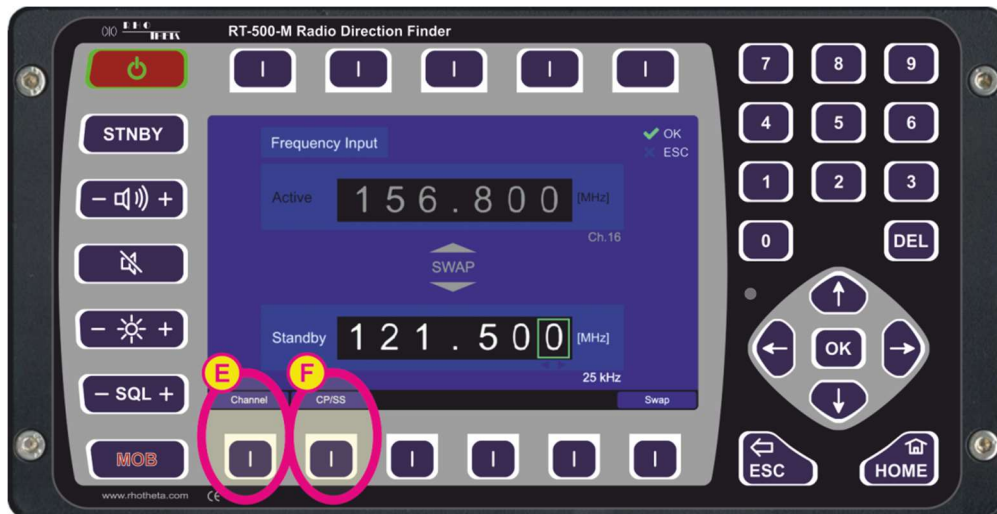

Figure 6. New frequency Input
- To input a maritime channel number, push the hotkey “Channel” (s. field “E”, Figure 6) and proceed by typing the number and pressing “OK”.
- To select a desired Cospas-Sarsat frequency (channel ABC – channel RS) from a drop-down menu press the “CP-SS” hotkey (s. field “F”, Figure 6). Confirm the desired frequency with “OK”.